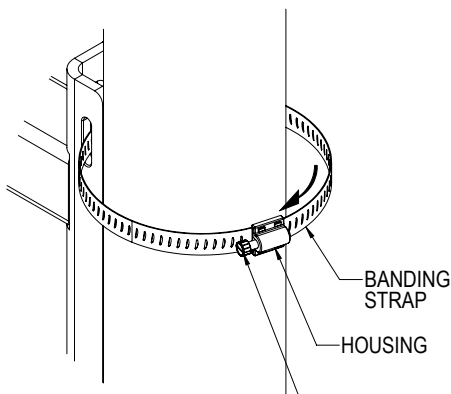

Figure 2
**Step 2:** Insert the end of the banding strap into the housing's opening then rotate the screw clockwise using a screw driver or a socket wrench to tighten the band around the pole (*Figure 2*). Do not fully tighten.